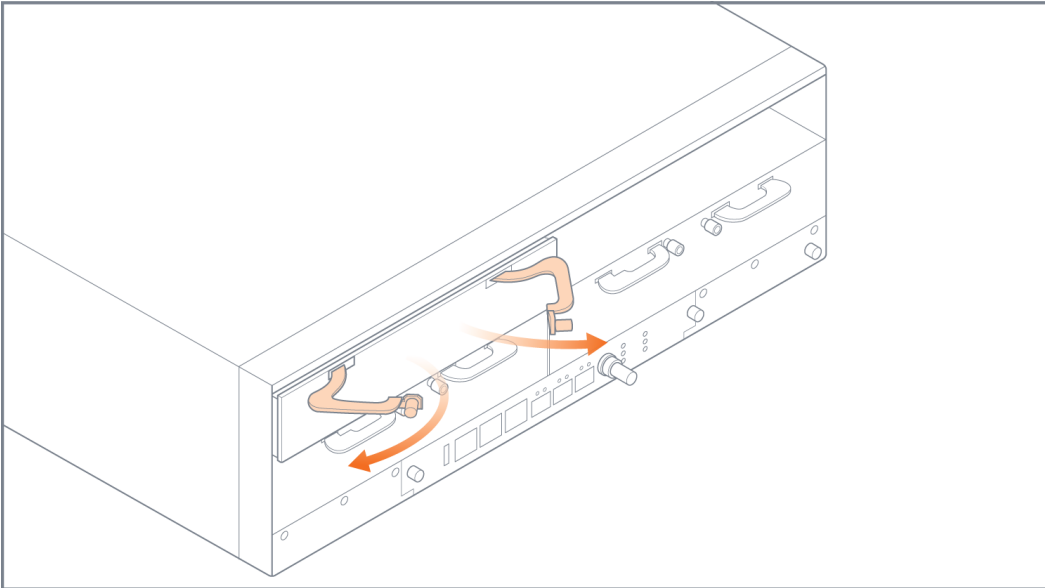

Figure 9: Filler Panel Levers
5. Open the levers on a filler panel as shown in Figure 9: Filler Panel Levers.